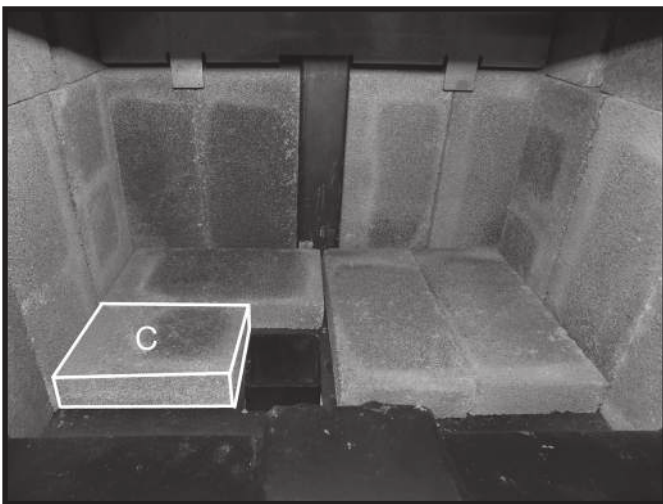
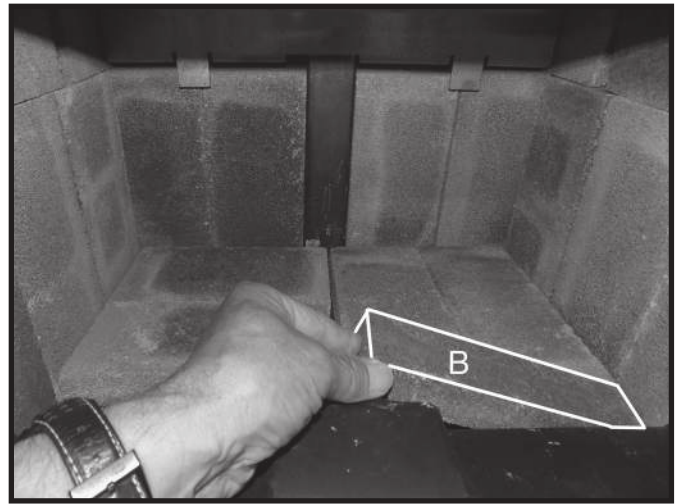

Figure 25: Fourth floor brick in place.
Figure 26: Narrow floor brick being positioned.
10. Place the "C" firebrick so that it sits beside the ash dump, against the lefthand side wall and the "A" firebrick located directly behind the ash dump (Figure 25).
11. Place the two remaining "B" firebricks in front of the other floor firebricks to complete firebrick installation (Figure 25 and Figure 26).